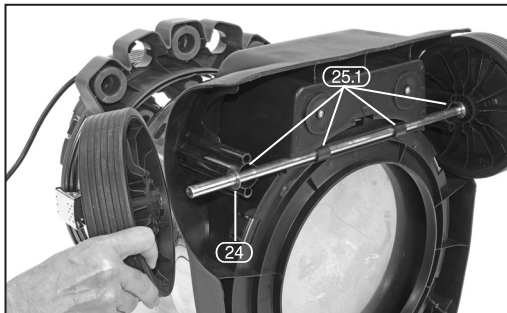

FIG. 1
6.1 FITTING THE REAR WHEELS— FIGS. 1 – 2
- Pass the wheel axle (25) through the moulded brackets (25.1) situated on the underside of the machine.
- Thread a washer (24) on each end of the axle followed by the 2 rear wheels (12).